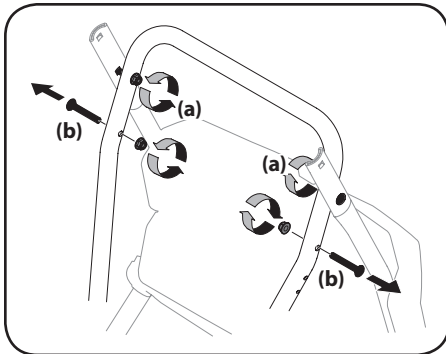

Figure 2-2
2. Loosen the top two lock nuts (a) securing the upper and lower handle and remove the two carriage screws (b) from the lower handle and set aside as shown in Figure 2-2.
6. Reattach the two carriage screws and lock nuts removed earlier as shown in Figure 2-2.